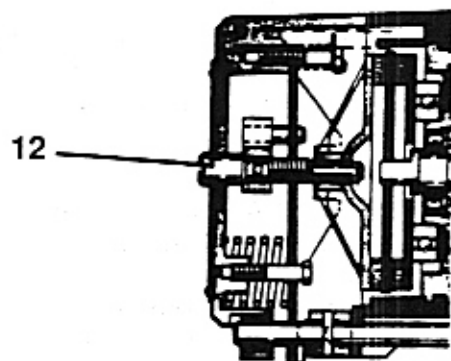

### FIGURE 1
Before hanging up the hoist, attach the twist rod control or the pendant control if used. To attach these to hoist see the instructions provided with the controls on pages 23 and 27 of this manual. If the accompanying chain control is to be used, it should be attached with the "S" Hooks to the control yoke (7) as shown in figures 1 and 2.
To install the chain the hoist should be hung up by the suspension hook and connected to the air supply line. The air pressure should be reduced to approximately 14.5 psig. The hoist is furnished with a steel wire which is fastened around the chain wheel (see 6 in figures 1 and 2.)
#### 1. AC 1/4 And 1/2 Ton Hoists (Reference Figure 1).
- Remove the locking ring (2) and the pin (3).
- Insert the end link of the chain into the hook holder (1) and lock with the pin (3) then add the locking ring (2).
- With the aid of the steel wire pull the end link up into the chain guide (4). **NOTE:** To prevent a twist in the chain the end link put in guide must be turned as shown by D in figure 1. The standing link of the chain must have the chain weld away from the center of the chain wheel (6) as shown by E in figure 1.
#### ADJUSTMENT OF TRAVEL LIMIT ON CONTROL YOKE (REFERENCE FIGURES 1 AND 2)